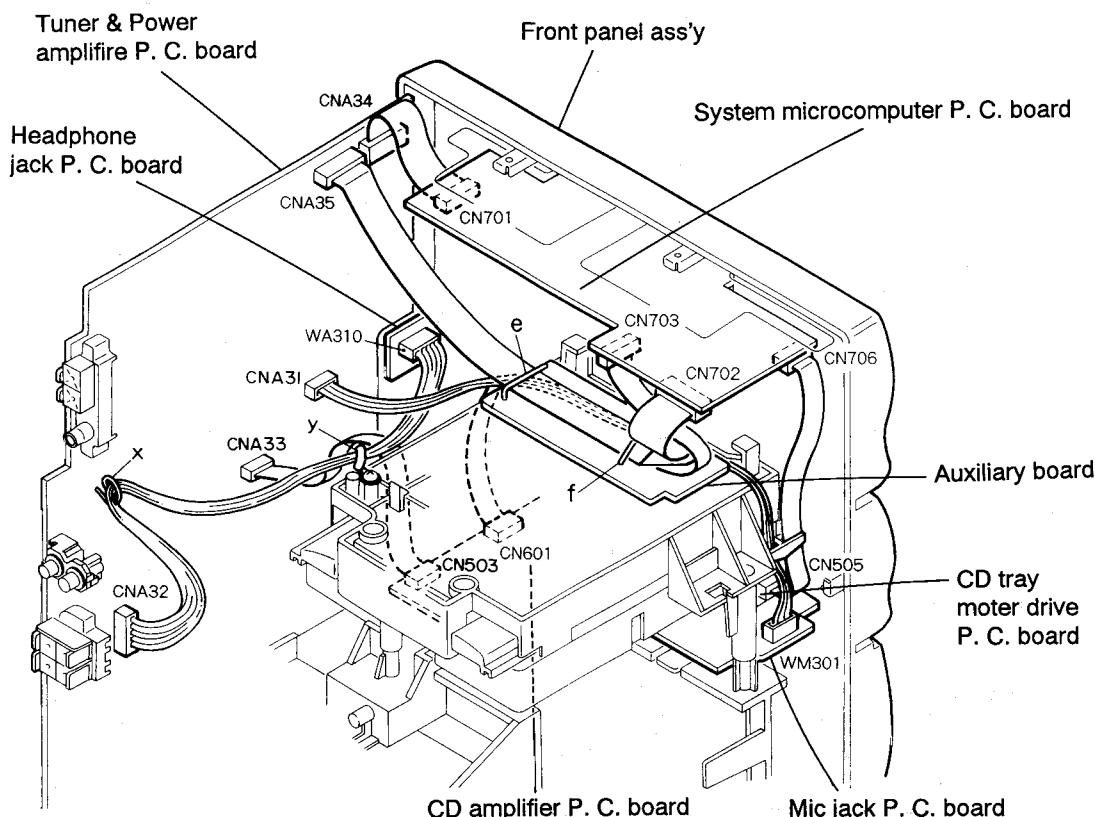

Fig. 5-9
6. From connector **CN702** on the LCD and system microcomputer P.C. board, remove the card wire outgoing from the connector **CNA35** on the tuner & power amplifier P.C. board (Refer to Fig. 5-9).
7. From the connector **CN701** on the LCD and system microcomputer P.C. board, remove the card wire outgoing from the connector **CNA34** on the tuner & power amplifier P.C. board (Refer to Fig. 5-9).
9. From the connector **CN706** on the system micro - computer P.C. board, remove the card wire outgoing from the connector **CN505** on the CD tray motor drive P.C. board (Refer to Fig. 5-9).
10. From the connector **CNA31** on the tuner power amplifier P.C. board, remove the 4 PIN connector outgoing from the connector **WM301** on the MIC jack P.C. board. Then, remove the 4 PIN connector from the two wire clamps on the auxiliary P.C. board and dismount the front panel ass'y (Refer to Fig. 5-9).